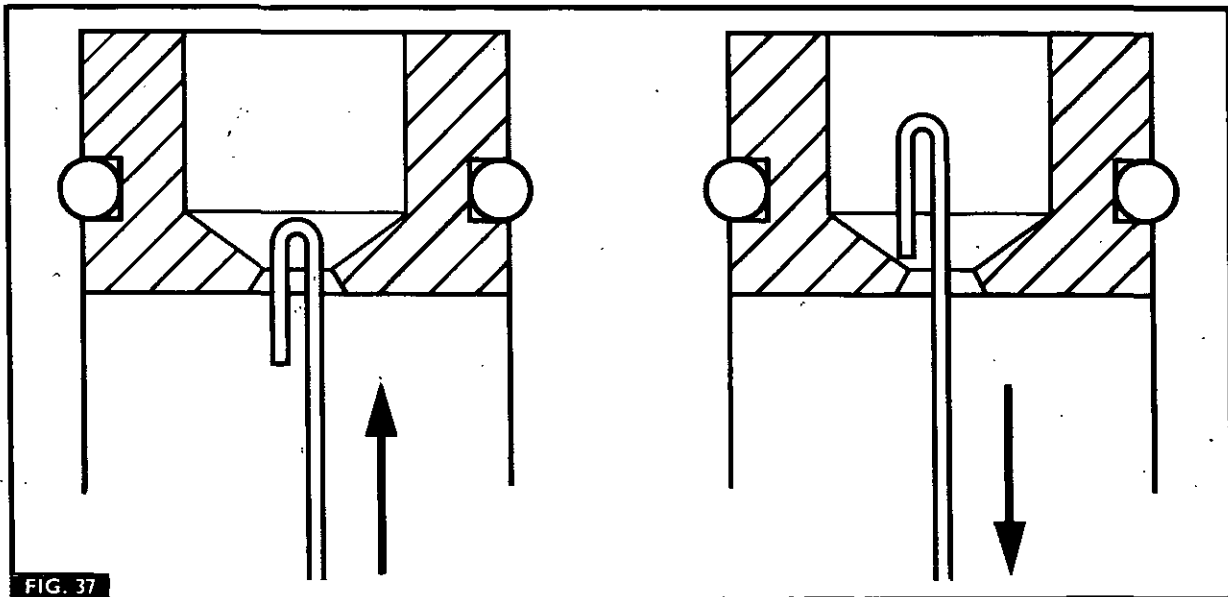

FIG. 37
10. If the relief valve has been removed, remove the valve seat (149), complete with its 'O' ring (148). This operation requires the use of a small wire extractor hook (see Fig. 37).